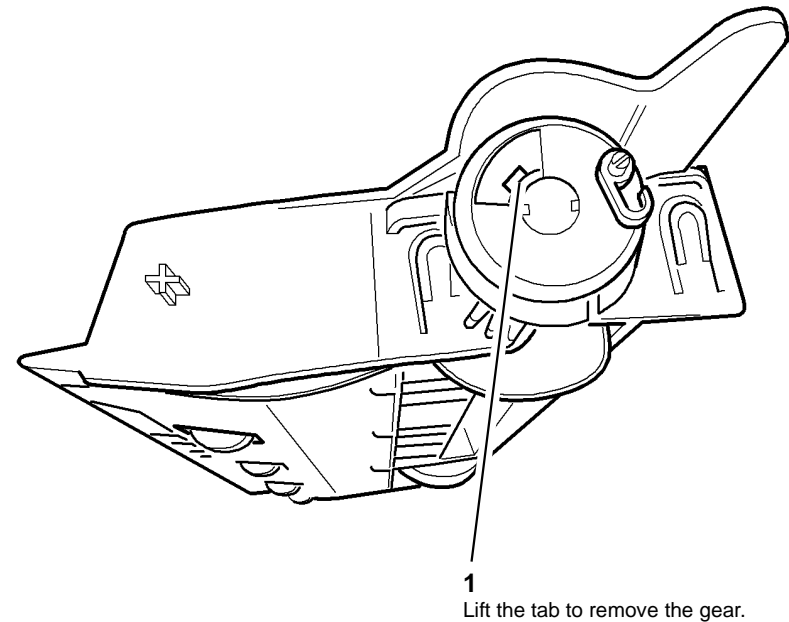

Figure 1 Drive gear removal
2. Remove the bypass tray drive gear, Figure 1.